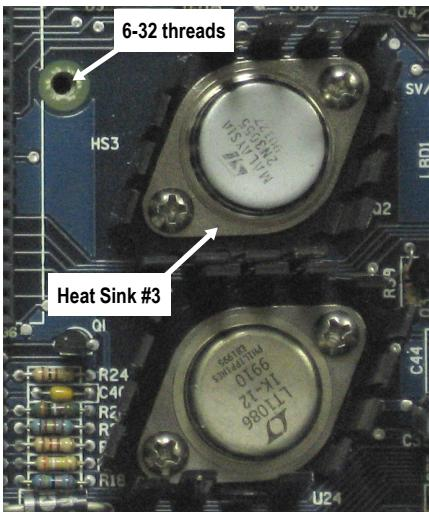

Fig. 5: Location of threads near HS3.
5. Remove any screws or fasteners from the 6-32 threads located near HS3 (heat sink #3). See Fig. 5 .